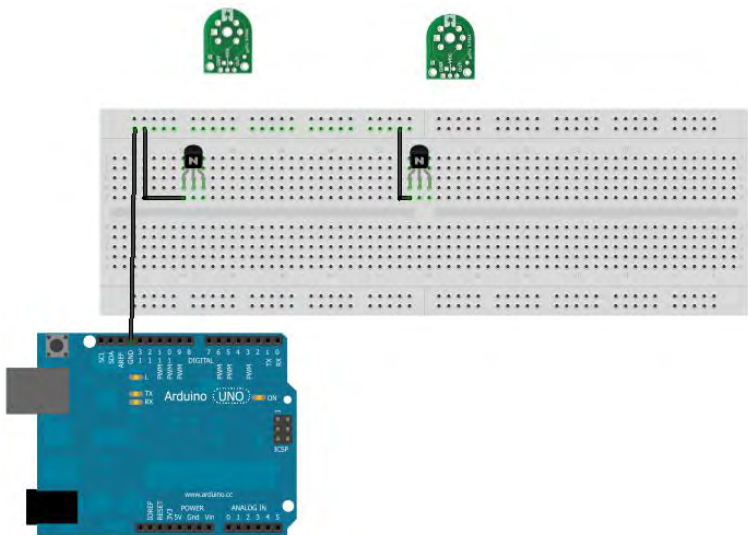

Figure 2-4. Step one. Source: these images were created with Fritzing.
1. Connect a wire from the GND pin of Arduino to the GND rail of the bread-board. Connect the GND rail of the breadboard to the EMITTER pin of the transistor (Figure 2-4).